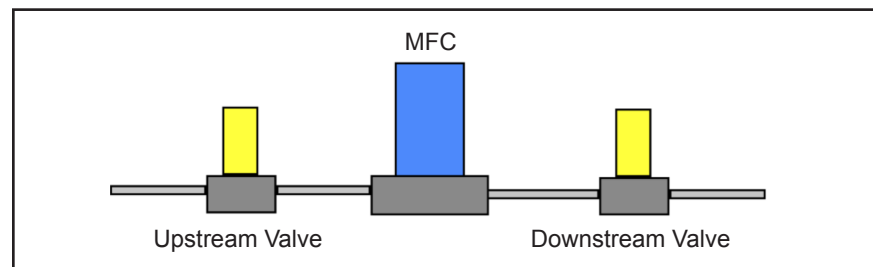

Figure 4-1 MFC Installation
2. Refer to Figure 4-1, MFC Installation, below. Open the upstream isolation valve and close the downstream isolation valve to eliminate the pressure drop by isolating the MFC within the process tool. The pressure drop across the MFC must be eliminated so the control valve leakage is not a factor.
4. Refer to Figure 4-1 and shut the upstream isolation valve. This prevents any creep effects from the regulator affecting the pressure.
If the MFC zero is misadjusted, the entire calibration curve changes accordingly. To insure absolute zero flow conditions are maintained during the re-zeroing sequence, upstream and downstream isolation valves should be installed within a few inches of the MFC as shown in Figure 4-1, MFC Installation, on p. 4-2. The following shutdown sequence is highly recommended to provide optimum auto zeroing conditions.